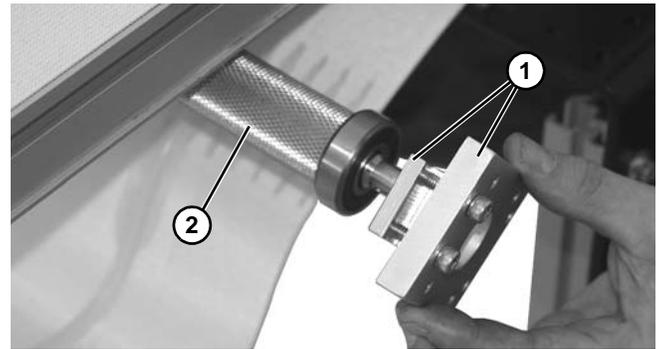

Figure 120
- Separate mounting blocks (**Figure 120, item 1**) from spindle (**Figure 120, item 2**).